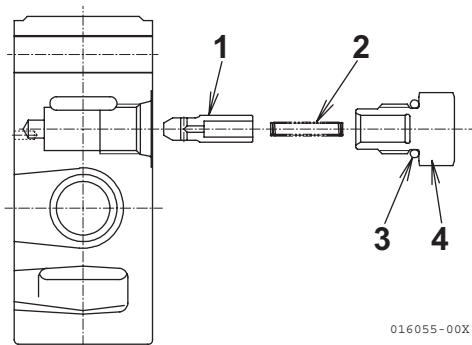

Fig. 5 Check valve section
(5) Particular type **2** (bucket section (see Fig.5))